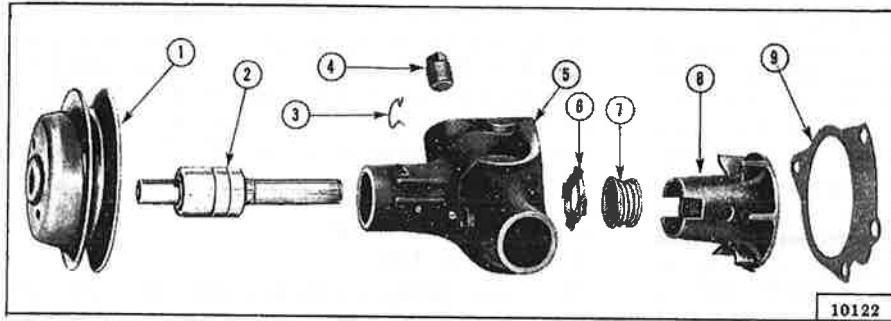

FIG. 139—WATER PUMP
Refer to Fig. 139.
The water pump on these models is a centrifugal impeller type of large capacity to circulate water in the entire cooling system. The double row ball bearing Fig. 139, is integral with the shaft and is packed at assembly with a special high melting point grease which will last the life of the bearing. The bearing is sealed to retain the lubricant and prevent dirt and dust from entering. The bearing and shaft are retained in the water pump body by the bearing retaining wire. The water seal bears against the ground seat on the pump body and the inside of the impeller, maintaining a constant pressure against both and preventing water leakage. A drain hole in the bottom of the pump body precludes any water seepage past the seal from entering the bearing.
- Remove the bearing retainer spring Fig. 139.